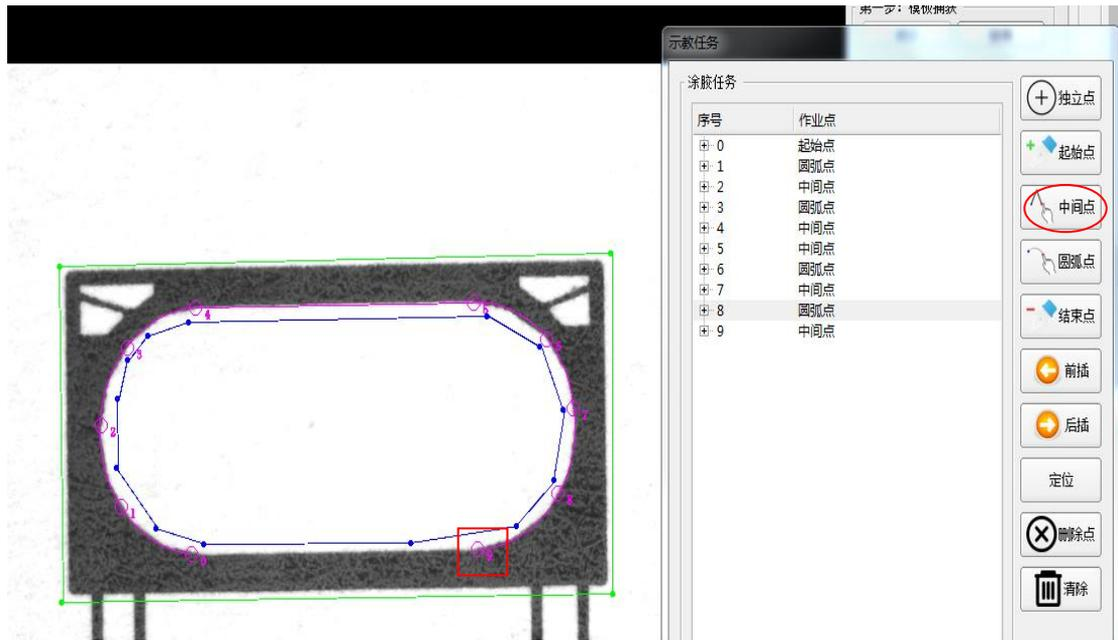

Figure 38 Middle point adding
10) Add middle point on the next intersection of arc line and straight line, as shown in figure 38;